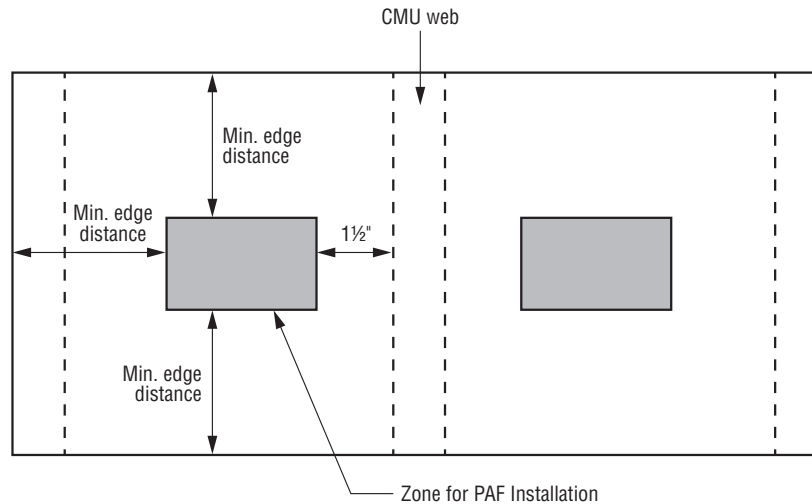

Figure 1. Zone for fastener installation in face shell of CMU
5. Allowable values are for fasteners installed in the center of a CMU face shell. See Figure 1 for the applicable placement zone.